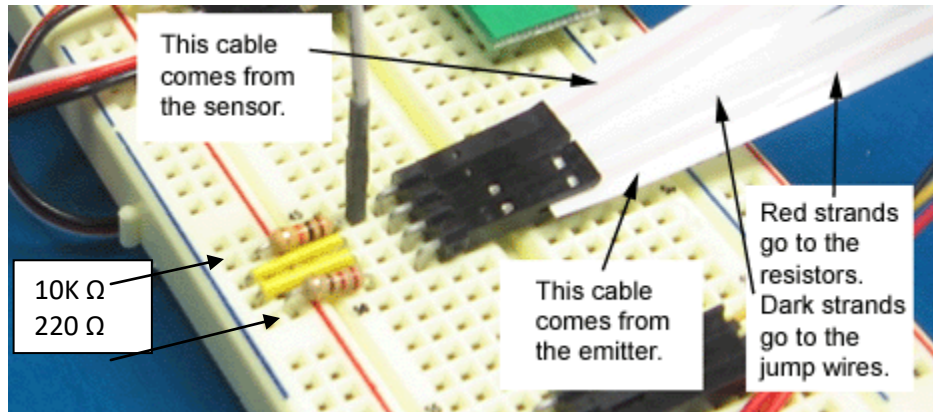

Figure 21. Plugging cables from sensor into the four-prong connector.
5. Connect the flat-flex cables from the left down-facing sensor to the four-prong connector, as shown in Figure 21. *NOTE: Make sure that the dark strands align with the yellow jump wires, the red strand from the emitter aligns with the 220-Ohm resistor, and the red strand from the receiver aligns with the 10,000-Ohm resistor.*